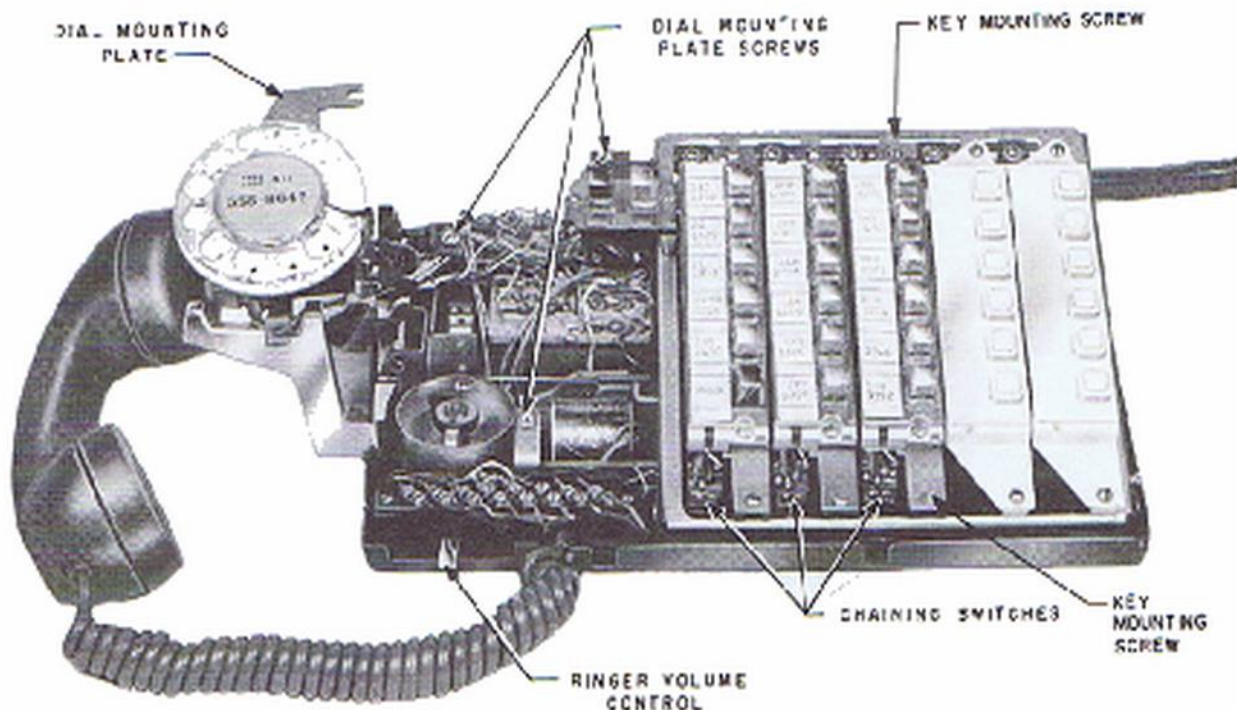
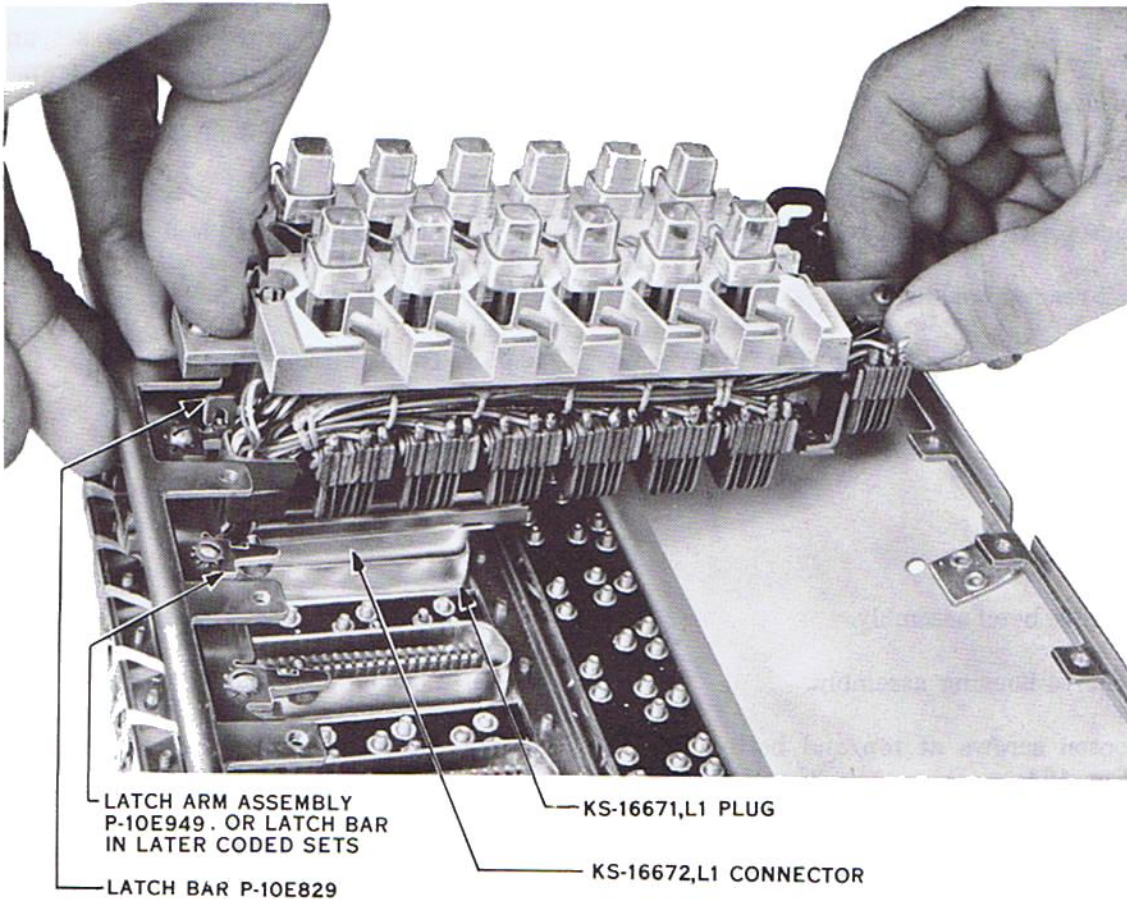

Fig. 16 — 639-Type Telephone Set, Dial Mounting Plate Lifted
Fig. 17 — Method of Placing Key
- (1) Remove bezel assembly.
- (2) Remove housing assembly.
- (3) Loosen screws at top and bottom of key (Fig. 16).
- (4) Grasp both ends of key and pull up to free connector.
(5) Slide key toward back of set until front end of key clears mounting frame.
(6) Raise front end of key to clear mounting frame.
(7) Slide key forward and up.
8.05 To install key (Fig. 17):